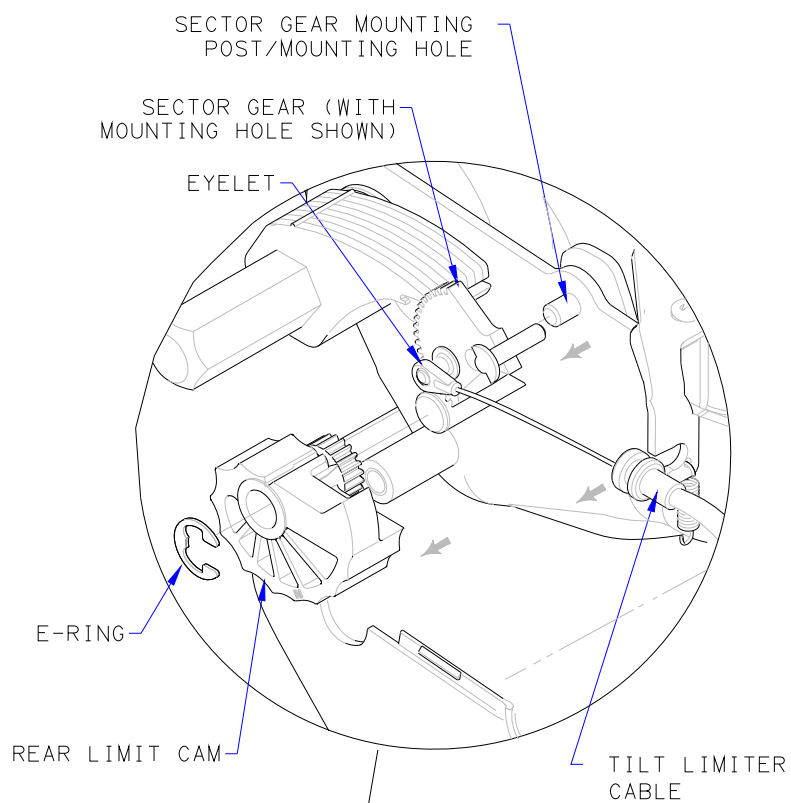

FIGURE 9
6. USING SMALL STRAIGHT HEAD SCREWDRIVER, REMOVE E-RING SECURING REAR LIMIT CAM AND SET ASIDE. REMOVE REAR LIMIT CAM AND SET ASIDE. REMOVE SECTOR GEAR, WITH CABLE ATTACHED, FROM SECTOR GEAR POST AND LET HANG. SEE FIGURE 9.